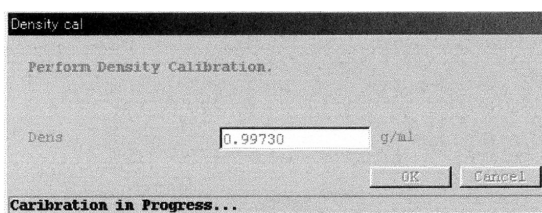

Fig.103
- ④ It takes about 30 seconds to complete the process of density calibration. While the density calibration is in progress, a message like the one shown in Fig. 103 stays on.